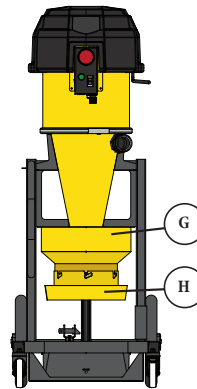

FIG. 12a
Installing the Cassette Holder (H) to the Cyclone's Hopper (G) [FIG. 12a]: